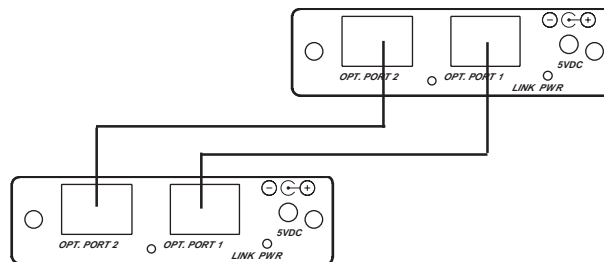

Figure 2-3
3. Connect the fibers from one unit to the other connecting the near end Mini-DVI-DL-T unit's optical ports to the far end of the Mini-DVI-DL-R unit's optical RX ports as illustrated in Figure 2-3.